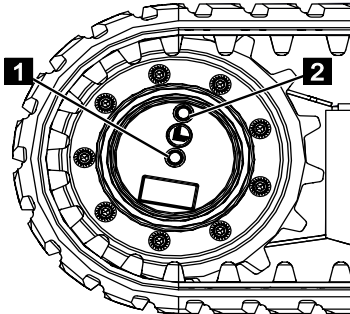

Fig. 252
5. Check the oil level by sight. The gearbox must be filled with oil up to the bottom edge of the threaded hole (Fig.252/1).
6. If required, top up gearbox oil. To do so, slowly top up the oil through the drilled hole (Fig.252/2) until it reaches the bottom edge of the threaded hole (Fig.252/1).